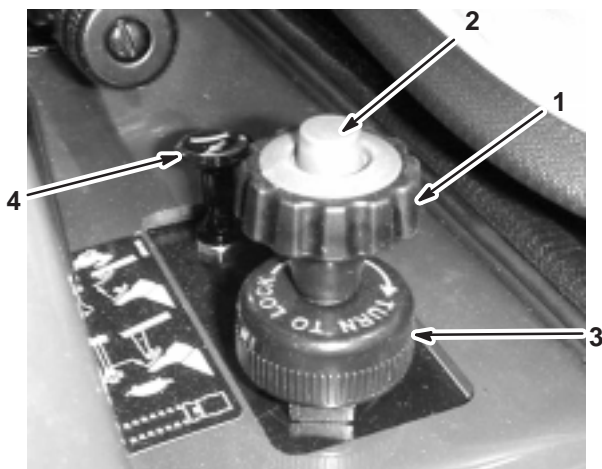

Figure 14
The speed limiter is a large knob located to the right of the seat (Fig. 14). It allows you to set the maximum downward travel of the accelerator pedal, thereby limiting the maximum speed of the sprayer.
2. Press the button on top of the speed limiter knob and pull up on it until you feel it touch the accelerator pedal, then release the button (Fig. 14).
4. Once you have it set, you can lock it at that setting by turning the locking ring at the base of the speed limiter clockwise until it stops (Fig. 14). To release this lock, turn the locking ring counter clockwise until it is loose.
The choke control is a small knob to the right of the seat. (Fig. 14). To start a cold engine, pull the choke control up. After the engine starts, regulate the choke to keep the engine running smoothly. As soon as possible, push the control down to the Off position. A warm engine requires little or no choking.